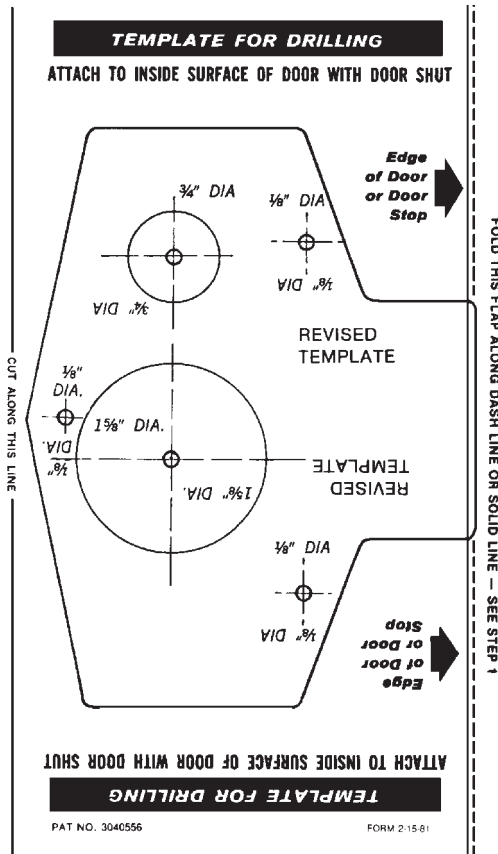

Figure 18.16 Drilling template for the 100 and 200 series DL/NL model locks. (Simplex Access Controls Corp.)
1. Using the template provided with the lock (Fig. 18.16), cut the template from the sheet and fold on the printed line as shown by the arrow. With the door closed, tape the template to the inside of the door with the fold line aligned with the edge of the door (or door stop if one is present). The same template applies to both inswing and outswing doors (Fig. 18.17). Using a center punch, mark the centers of the two large and three small holes.